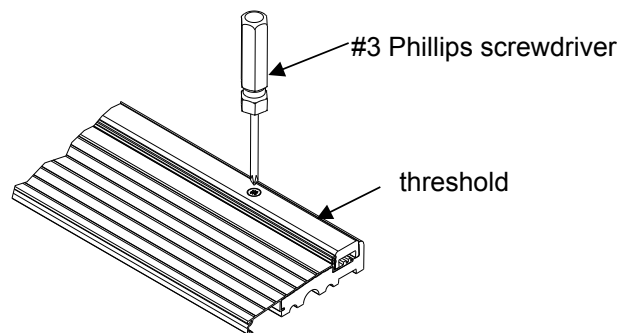

Figure 4
- 4** For an in-swing door with adjustable threshold, adjust the threshold as shown in Fig. 4 so that there is even contact between the door sweep and the threshold. To test, put a sheet of paper between door sweep and threshold, close the door and pull. The correct adjustment would have slight tension, but if the paper tears, the tension is too high.